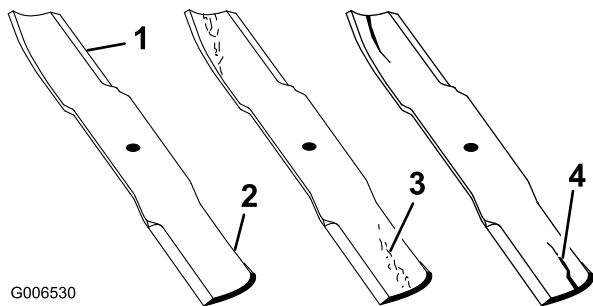

Figure 64
2. Inspect the cutting edges (Figure 64). If the edges are not sharp or have nicks, remove and sharpen the blades. Refer to Sharpening the Blades (page 52).
3. Inspect the blades, especially the curved area (Figure 64). If you notice any damage, wear, or a slot forming in this area (Figure 64), immediately install a new blade.